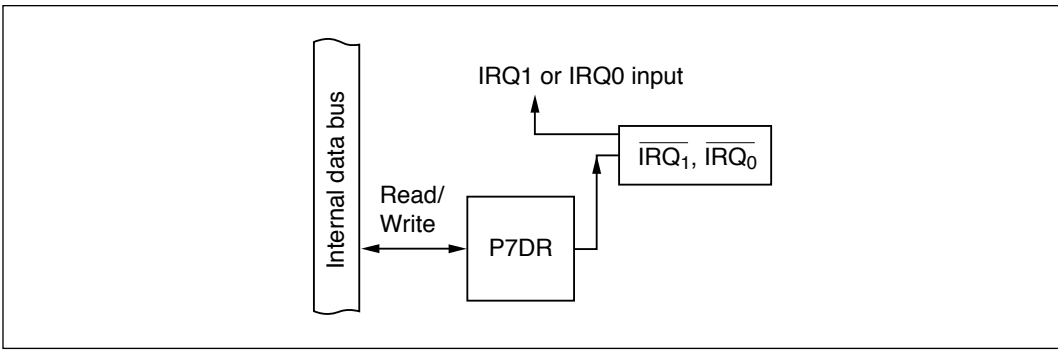

Figure 9-46 $\overline{\text{IRQ}}_1$ or $\overline{\text{IRQ}}_0$ Input Combined with General-Purpose Output (Modes 1 to 7)
(3) $\overline{\text{IRQ}}_1$ or $\overline{\text{IRQ}}_0$ Input Combined with General-Purpose Output (P7_1 , P7_0 : Modes 1 to 7): Figure 9-46 shows a block diagram illustrating the $\overline{\text{IRQ}}_1$ and $\overline{\text{IRQ}}_0$ input function when combined with general-purpose output. Table 9-36 indicates register read/write data. When P7_1 and P7_0 are used for $\overline{\text{IRQ}}_1$ and $\overline{\text{IRQ}}_0$ input they can also function as general-purpose output ports. If the general-purpose output function is used, however, output of a falling edge will cause an interrupt.